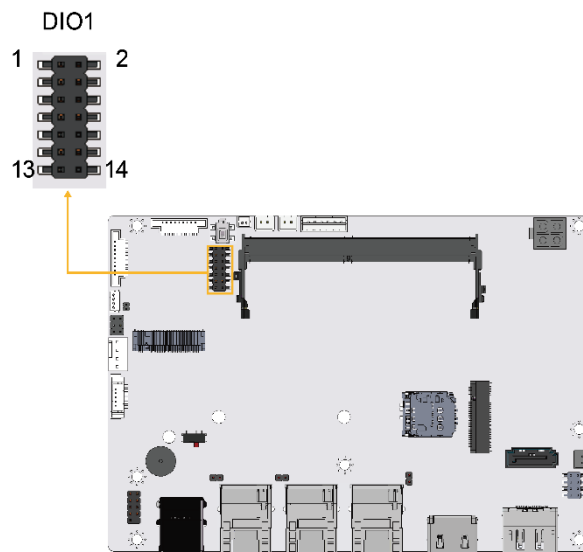

Figure 3-29: Digital I/O Connector Location
- CN Location:** See **Figure 3-29**